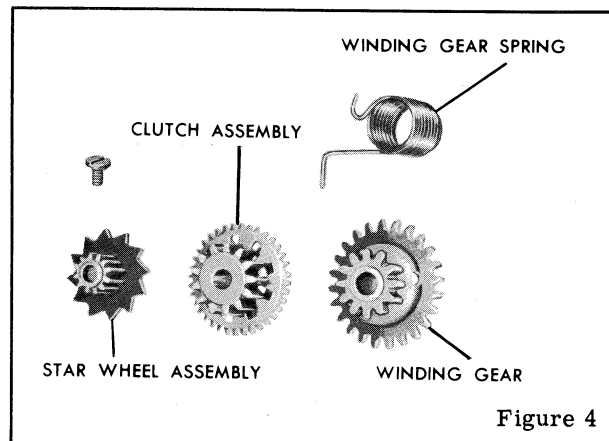

Figure 4
| | The CLUTCH ASSEMBLY, figure 4, is slipping. | Replace the clutch assembly. |
| Both flash settings are below the millisecond tolerances (fast). | The tension is too great on the WINDING GEAR SPRING , figure 4. | Relieve the tension slightly on the winding gear spring. However, there must be enough tension on the spring to permit the winding lever to carry through on both the F and M flash settings. |
3. Winding lever, with the sixth or seventh tooth from the left meshed with the WINDING GEAR, figure 4. Place the WINDING GEAR SPRING in tension by giving two and one-quarter strokes to the winding lever, lifting and replacing the lever after the first and second strokes. This should be the
5. WINDING GEAR, figure 4, and the WINDING GEAR SPRING.